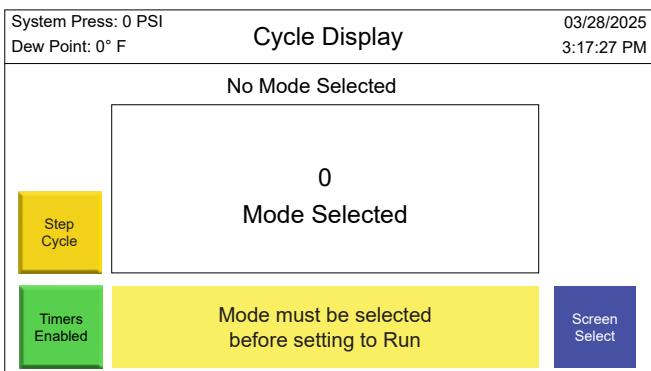

Figure 5.10 – Cycle Display
- **Cycle Display** – Displays the current mode/step of the program (refer to Figure 5.10).